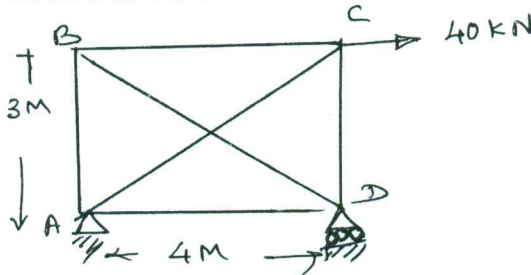

Fig.Q4
- 4 Developing element flexibility matrix, determine element forces for the truss shown in Fig.Q4. AE is constant for all members. (20 Marks)